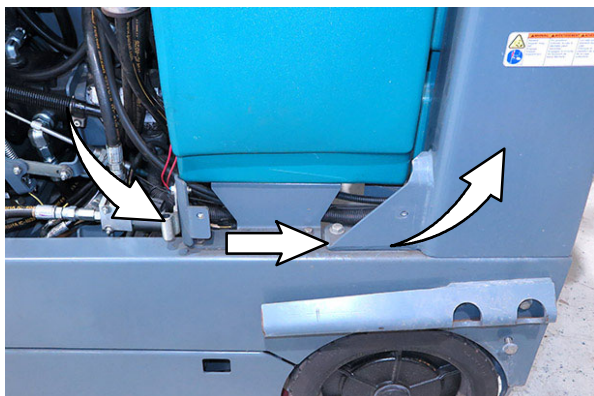

FIG. 17
25. **M20/M30 Only:** Continue routing the blue spotlight harness (14) rear blue light lead along the main wire harness and to the hopper lift leg. (Fig. 17)